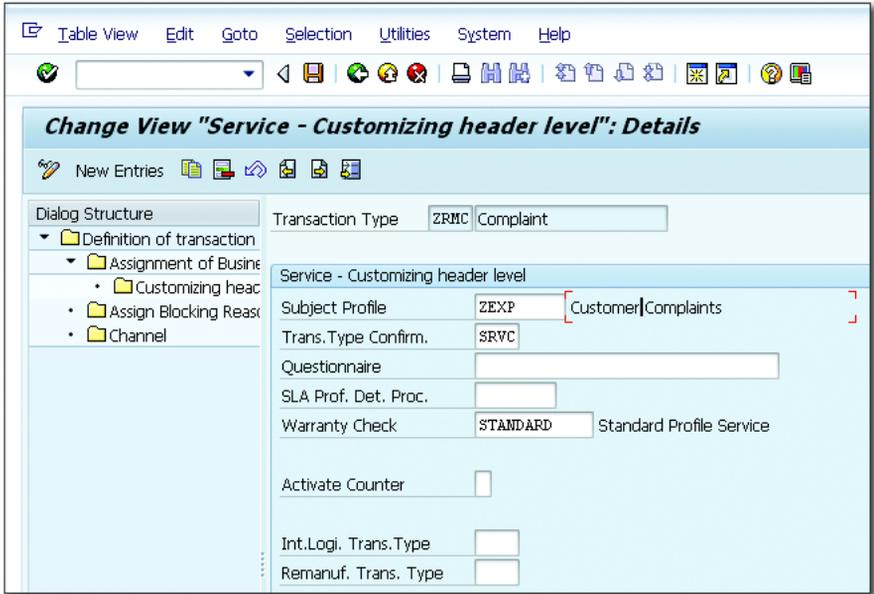

Figure 4.111 Assigning the Subject Profile to the Transaction Type
10. Assign the SUBJECT PROFILE to the TRANSACTION TYPE, as shown in Figure 4.111. In Customizing for transaction types, choose CUSTOMER RELATIONSHIP MANAGEMENT • TRANSACTIONS • BASIC SETTINGS • DEFINE TRANSACTION TYPES.